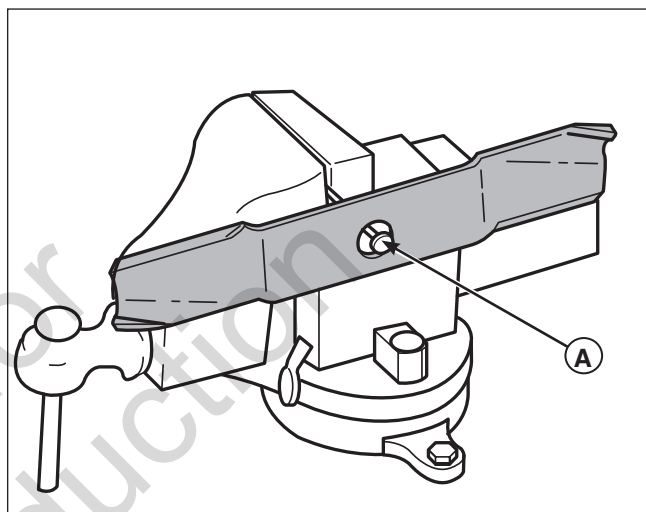

Figure 31. Balancing the Mower Blade
2. See Figure 31. Put the mower blade on a nail in a vise and turn the mower blade to the horizontal position.